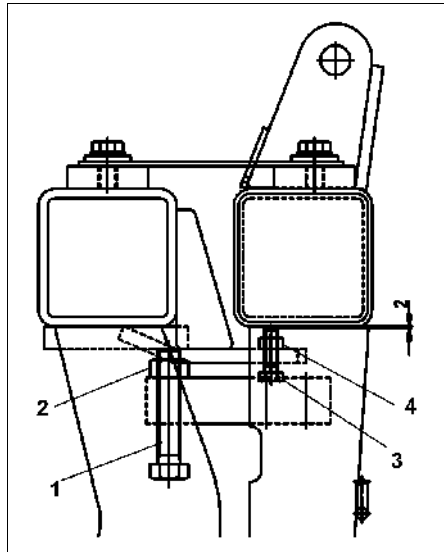

Fig. 63
You will find the micrometer gauge (Fig. 63/1) in the centre underneath the frame of the spreader in the weigh cell.
- Slacken counter nut (Fig. 63/2)
- Readjust micrometer gauge (Fig. 63/1)
- Retighten counter nut (Fig. 63/2)
Set the limiting bolts (Fig. 63/1) with a clearance of 2 mm according to illustration
- Set the limiting bolts (Fig. 63/1)